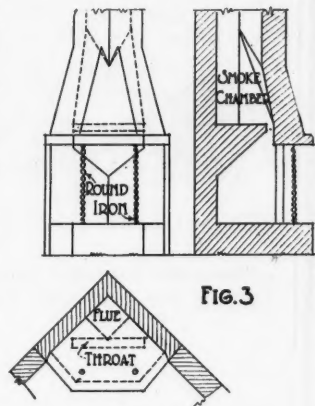

FIG. 3
**ANSWER:** The sketch, Figure 3, shows a Swedish corner fireplace but instead of the ordinarily used straight flue a smoke-shelf is put in. If desired, a damper may also be used. A somewhat simpler construction is obtained if the chimney is placed with its sides across the corner of the house instead of parallel with the walls.